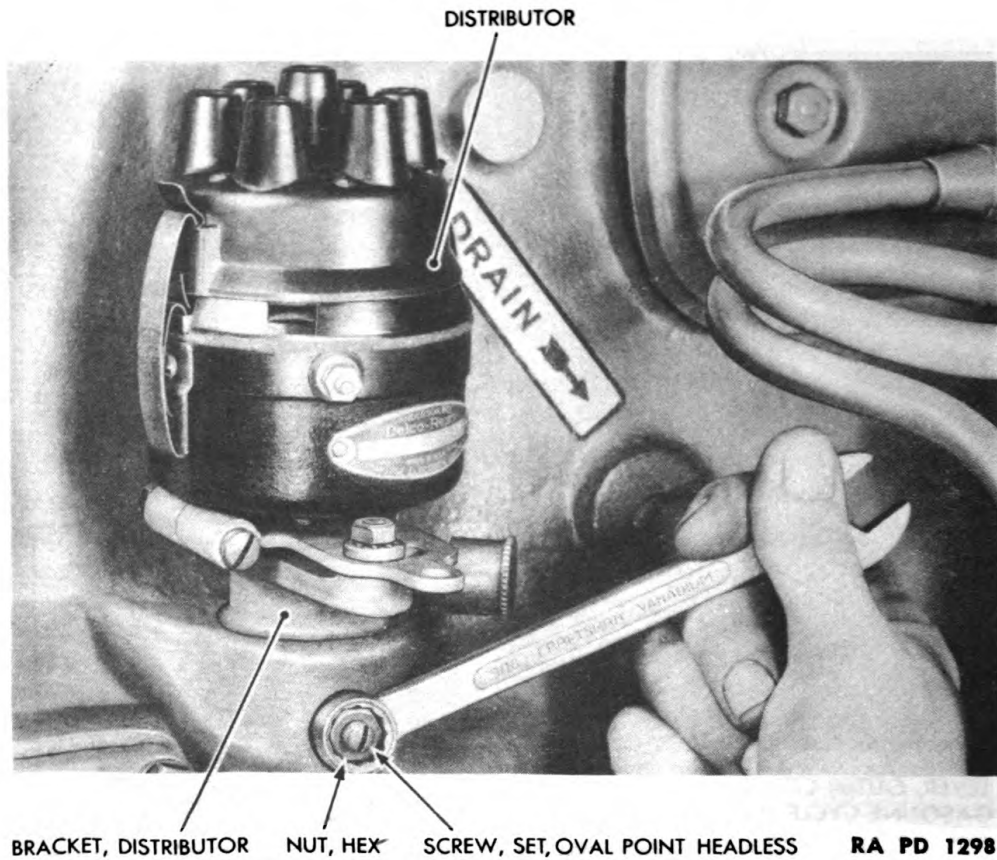

Figure 187—Distributor Installation
b. Procedure (fig. 187). Place distributor in position in crankcase so that shaft fits into slot in oil pump pinion. Countersunk hole on distributor shaft should also be positioned opposite oval point headless set screw and hexagon nut. Tighten set screw and lock it in position with hexagon nut.